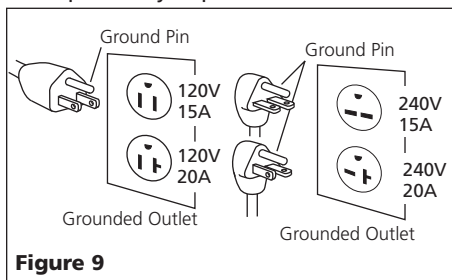

Figure 9
1. This product must be grounded. In the event of an electric short circuit, grounding reduces the risk of electrical shock by providing an escape wire for the electric current. Unit is equipped with a cord that has a grounding prong. It will fit one of the common outlet types shown in Figure 9. If plug will not fit in the desired outlet, have the outlet replaced by a qualified electrician.
1. If the plug on the electrical cord of the unit is unfamiliar to you or will not fit your particular receptacle, Figure 9 will help you understand why by illustrating the different plugs and the voltages they are to be used with.